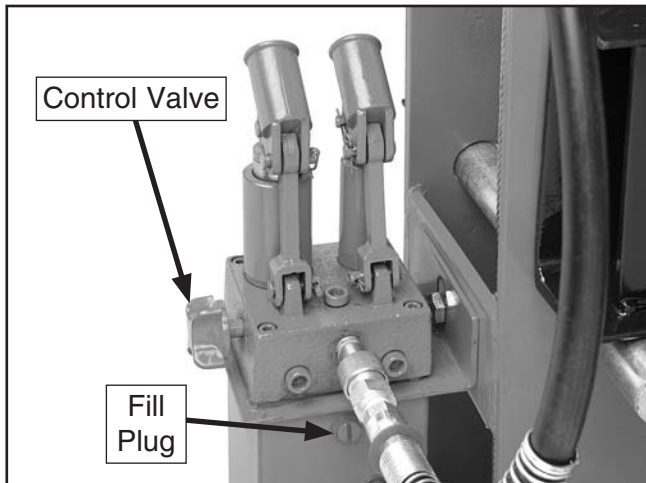

Figure 22. Control valve.
1. Open the control valve (**Figure 22**), and allow the press and the piston to fully retract until the pressure gauge reads zero.
2. Use a 17mm wrench to remove the two pump retaining bolts (**Figure 22**) and the pump.
3. Using a #3 standard screwdriver, remove the fill plug shown in **Figure 22**, and invert the pump assembly to drain out all hydraulic oil into a container from the pump reservoir.
8. Remove the fill plug shown in **Figure 22**, and top-off the hydraulic oil level until oil begins to pour out of the port.
2. Using a #3 standard screwdriver, remove the fill plug shown in **Figure 22**, and top-off the hydraulic oil level as required to the point where oil begins to pour out of the port.